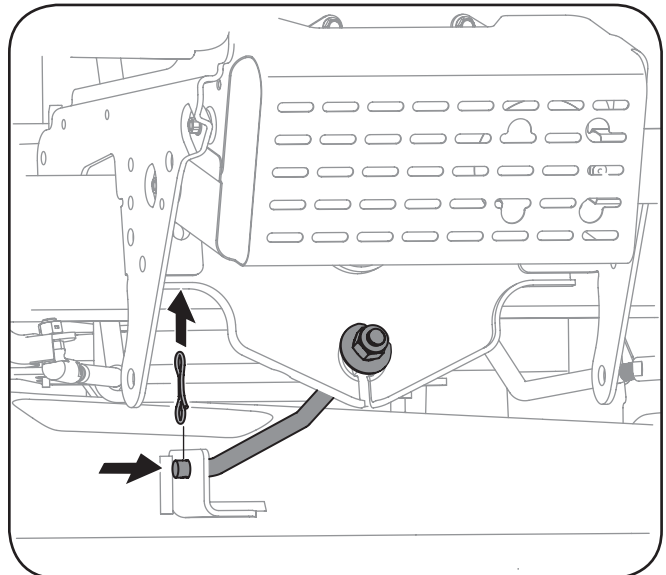

Figure 7-3
8. **On 42" decks:** Remove the bow-tie pin securing the deck stabilizer rod to the deck. Slide the deck lift rod from the mounting weldment on the deck as seen in Figure 7-3.
On 46" Decks: Remove the bow-tie cotter pin and flat washer securing the deck stabilizer rod to the deck. Slide the deck lift rod from the mounting weldment on the deck as seen in Figure 7-3.